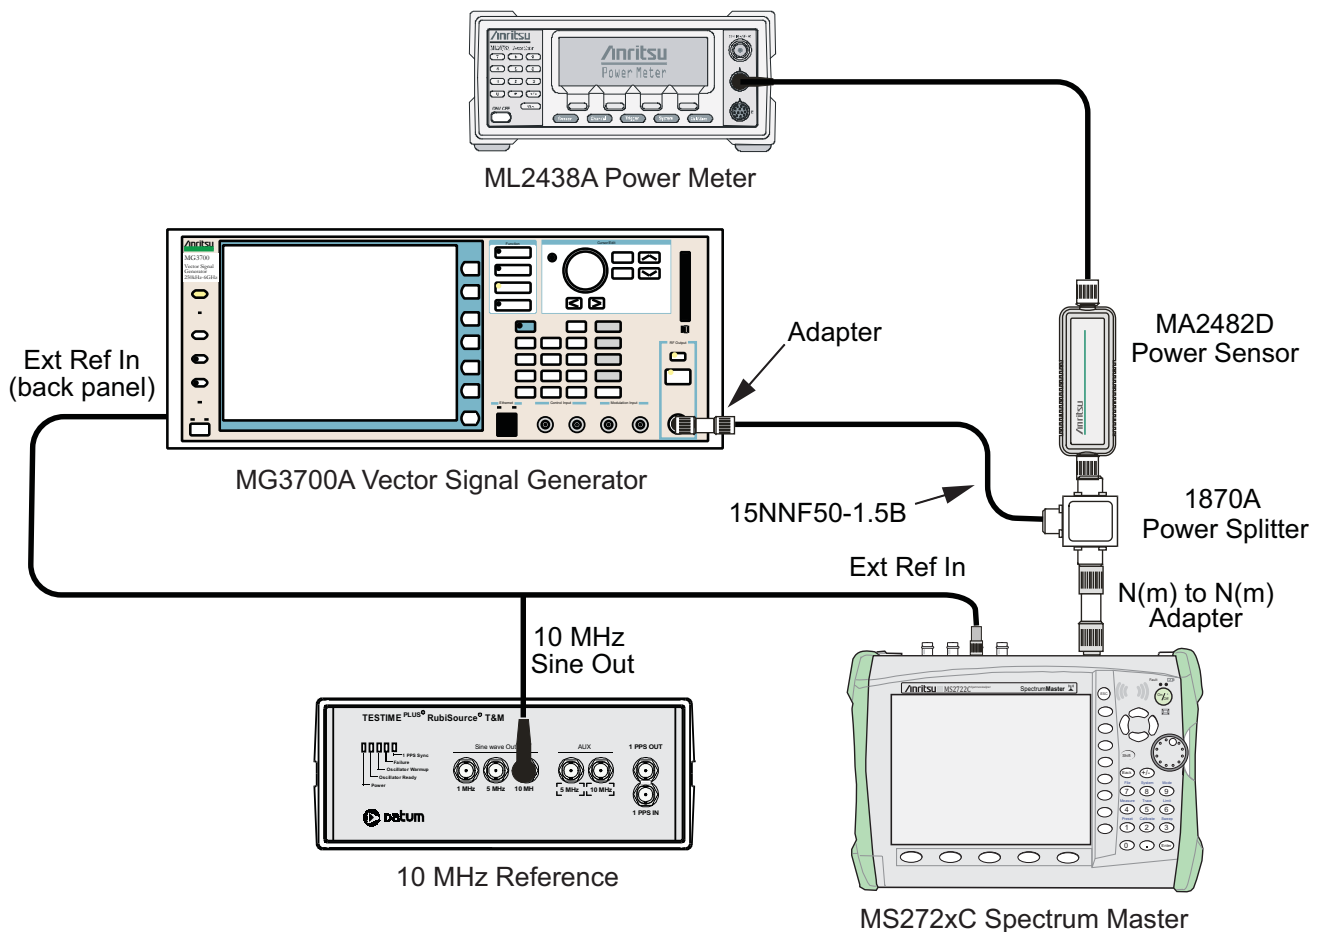

Figure 3-2. GSM/GPRS/EDGE, Test Setup
3. Connect the equipment as shown in Figure 3-2